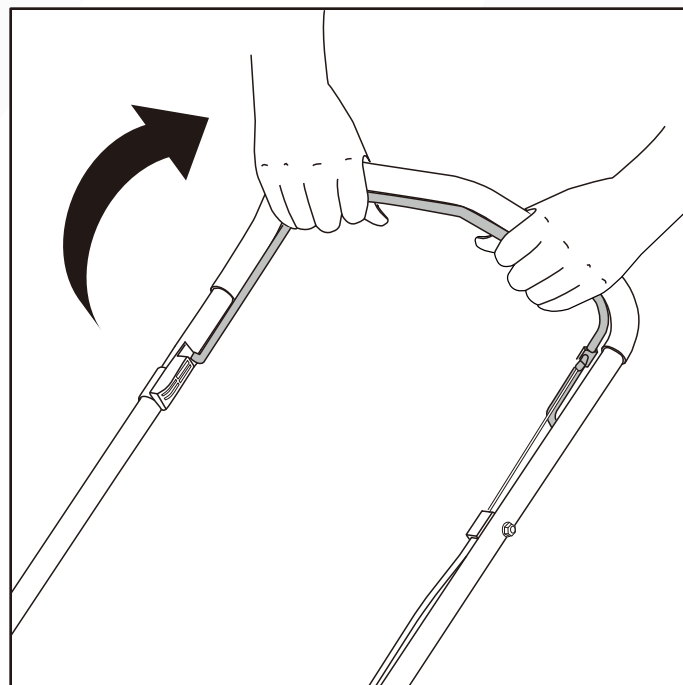

Fig.10A
1. Engage the auger by squeezing the auger control lever against the upper handle. (Fig.10A).